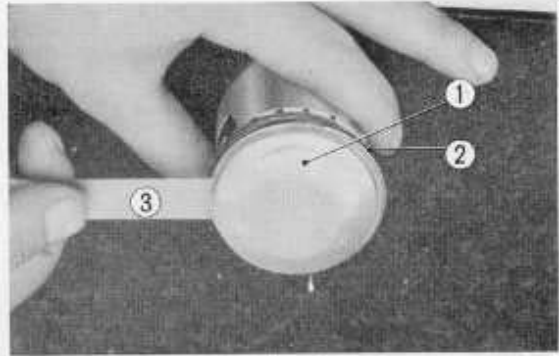

Fig. 3. 53 Measuring the piston ring side clearance
5. Measure the piston ring side clearance with a thickness gauge. (Fig. 3. 53)